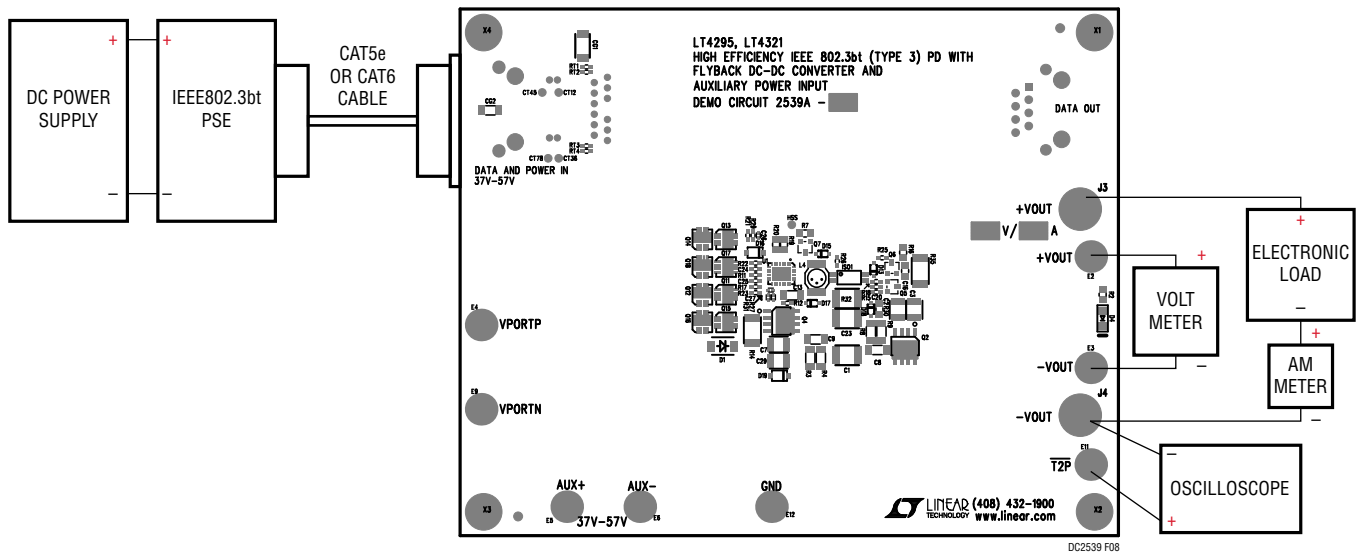

Figure 8. Setup Diagram for PoE Input
- 2 Place and connect test equipment (voltmeter, ammeter, oscilloscope, and electronic load) as shown in Figure 8.
- 7 Verify $\overline{T2P}$ response with an oscilloscope as shown in Figure 8. The $\overline{T2P}$ response to the type of PSE connected to the DC2539A-A is provided in Table 1.